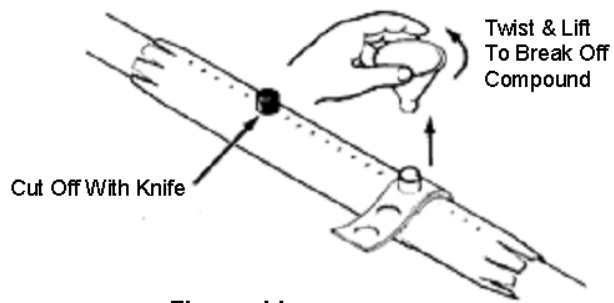

Figure 11
1. Remove funnels by twisting and lifting, breaking off from compound. (Figure 11)
2. Remove mold straps and funnel supports. (Figure 11)
3. Carefully cut off any spout compound protrusions from repair, using a knife. (Figure 11)